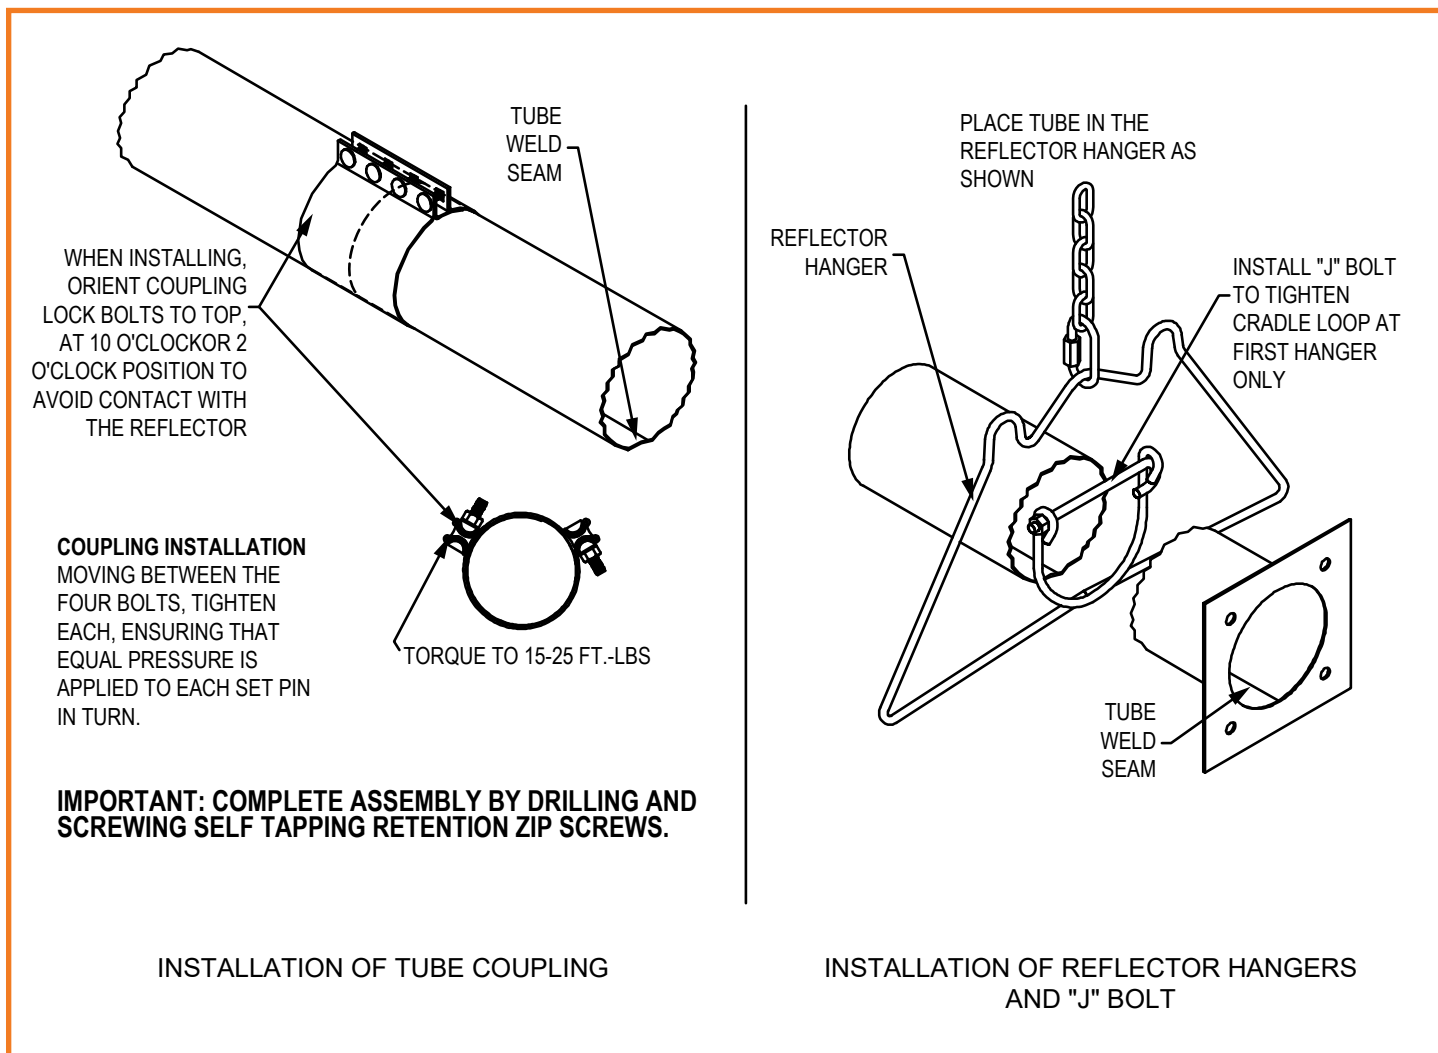

Figure 11: "J" Bolt and Coupling Installations
- Tighten the cradle loops of the first hanger with the "J-Bolt" found in the burner box, to snugly hold the combustion tube from rotating see Figure 11.
• **Note:** In order to obtain smoothly sealed coupling, tighten each of the nuts progressively and alternately. Tightening one nut completely before the other may result in an undesirable wrinkle in the coupler (refer to Figure 11).